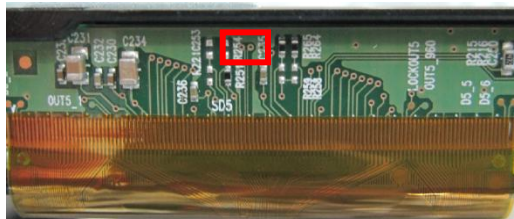

FIG. 3 Measure point
4. Response time is the time required for the display to transit from any gray to white (Rise Time, Tr_R) and from any gray to black (Decay time, Tr_D). For additional information see the FIG. 3.